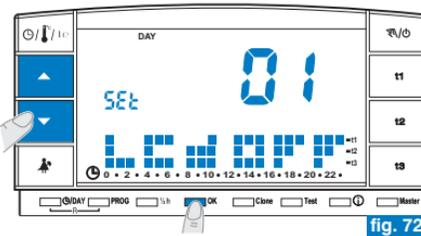

fig. 72
- From the display contrast screen (example in fig. 69) press ▲▼ view level "01" LCd OFF (example in fig. 72).